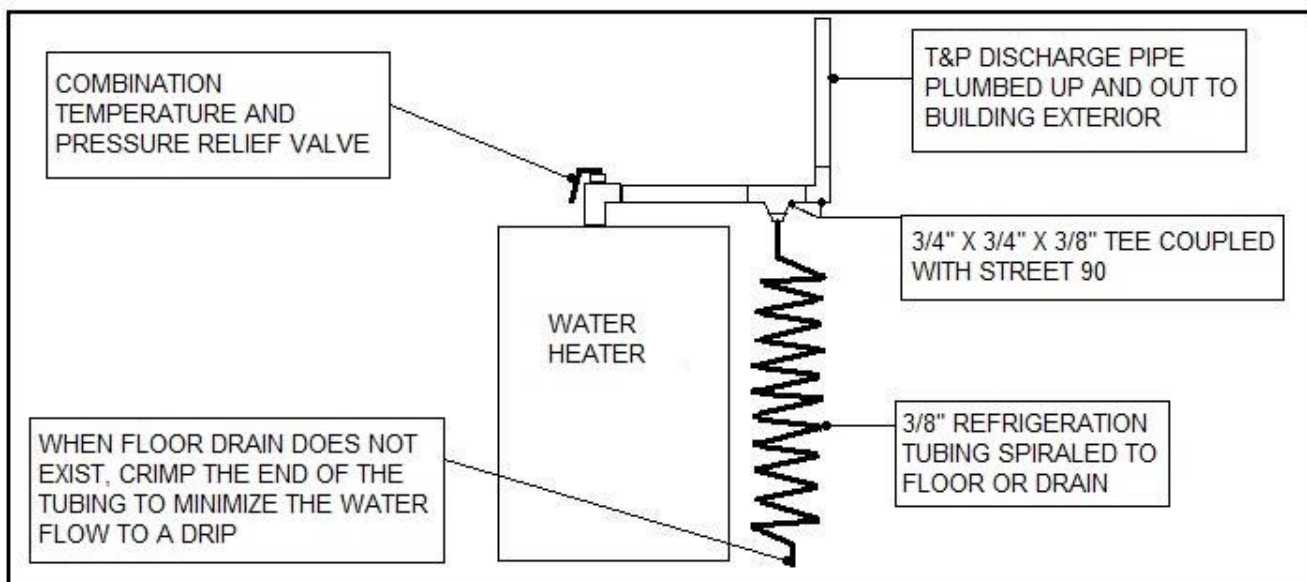

Figure CPA 046 – Water Heater/Electric Heat Pump Water Heater Basement Installation
- Temperature and pressure relief valve (T&P) shall be plumbed up and out to the building exterior per Figure CPA 046.